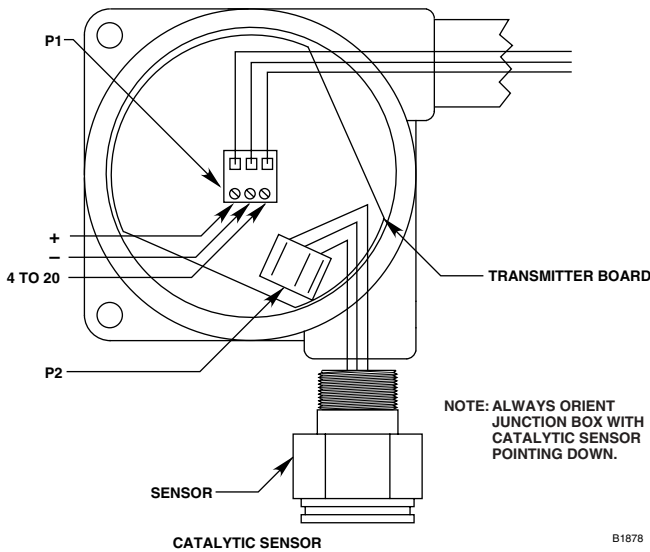

Figure 3-46—Sensor Separation Kits
This assembly can be separated from the DCUEX by up to 1000 feet using three conductor 18 AWG shielded cable. (Regardless of separation distance, operating voltage at the transmitter MUST be at least 18 vdc for proper device operation.) (See Figure 3-46.)
4. Use a three conductor 18 AWG shielded cable to connect P1 on the transmitter board to terminals 2, 3 and 4 on the DCU terminal board (See Figure 3-46). Connect the shield to the ground terminal in the DCUEX junction box.